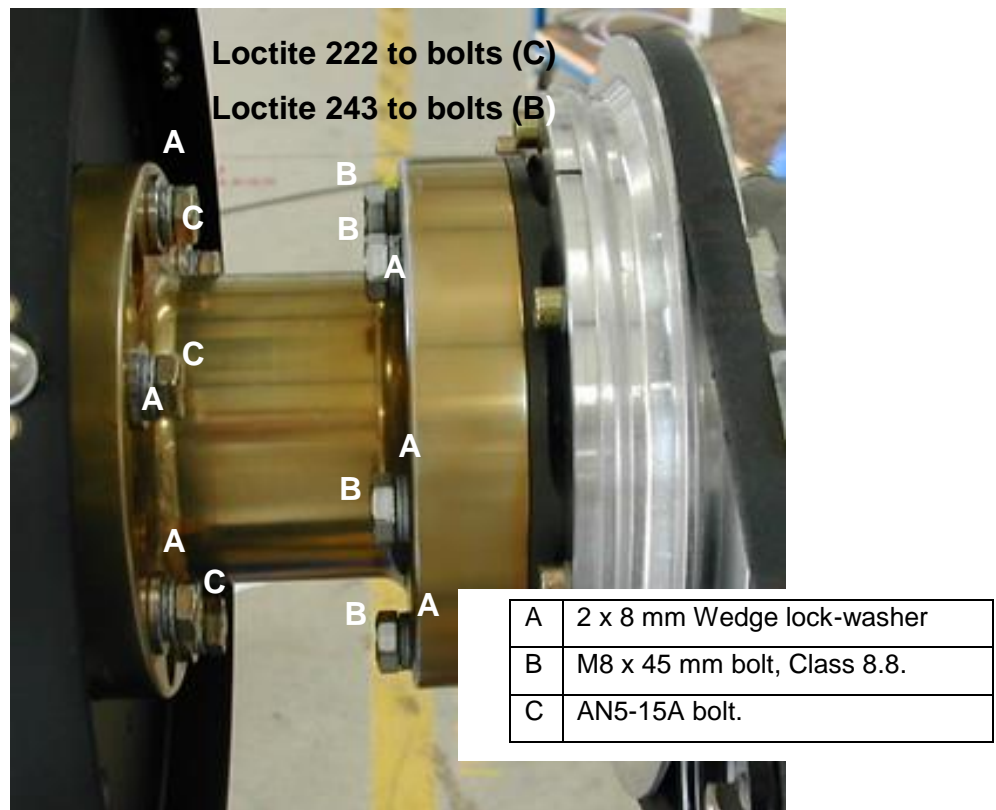

Figure 51: Propeller installation (external alternator fitted).
- Observe correct washer placement (refer to Figure 51).